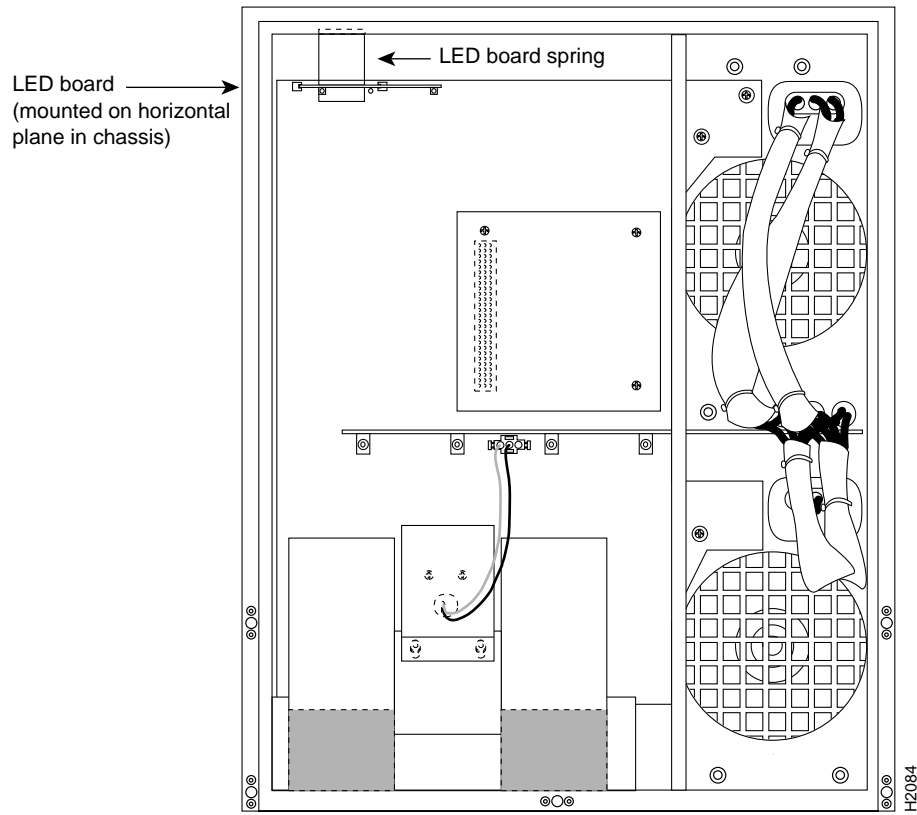
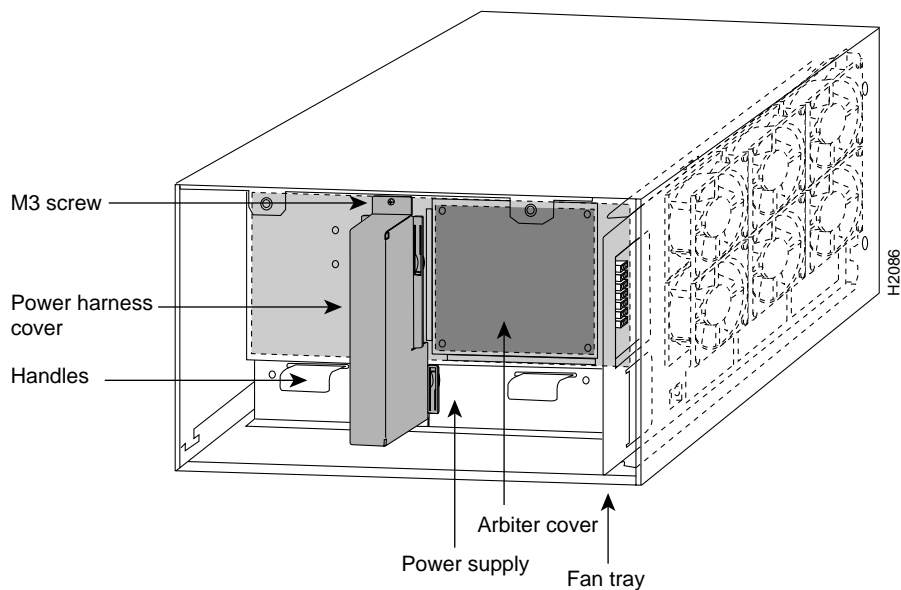

Figure 2 Cisco 7000 Internal Chassis Components, Non-IP End
Figure 3 Cisco 7010 Internal Chassis Components, Non-IP End
Figure 2 shows the interior of the seven-slot Cisco 7000 at the front (non-IP end) of the chassis, with the top and bottom front chassis panels removed to show the internal components.
Figure 3 shows the interior of the five-slot Cisco 7010 at the non-IP end, with the cover panel removed to show the internal components.
In the Cisco 7000 model, the arbiter mounts directly to the backplane above the power bus bar. (See Figure 2.) A connector on the back of the arbiter plugs into a backplane receptacle, and three Phillips screws hold the board in place. To access the arbiter, you must turn off all system power and remove the top and bottom front chassis panels.
- Step 2** Locate the arbiter (see Figure 2), which is mounted directly to the upper part of the backplane above the power bus bar. The arbiter is held in place by the connector and three Phillips screws. Figure 3 shows the orientation of the arbiter on the Cisco 7000 backplane.
- Step 2** Handling the arbiter by the edges only, hold the board in the orientation shown in Figure 3. The connector should be on the left, on the back side of the board (the side facing away from you), and the component side of the board should be facing you.